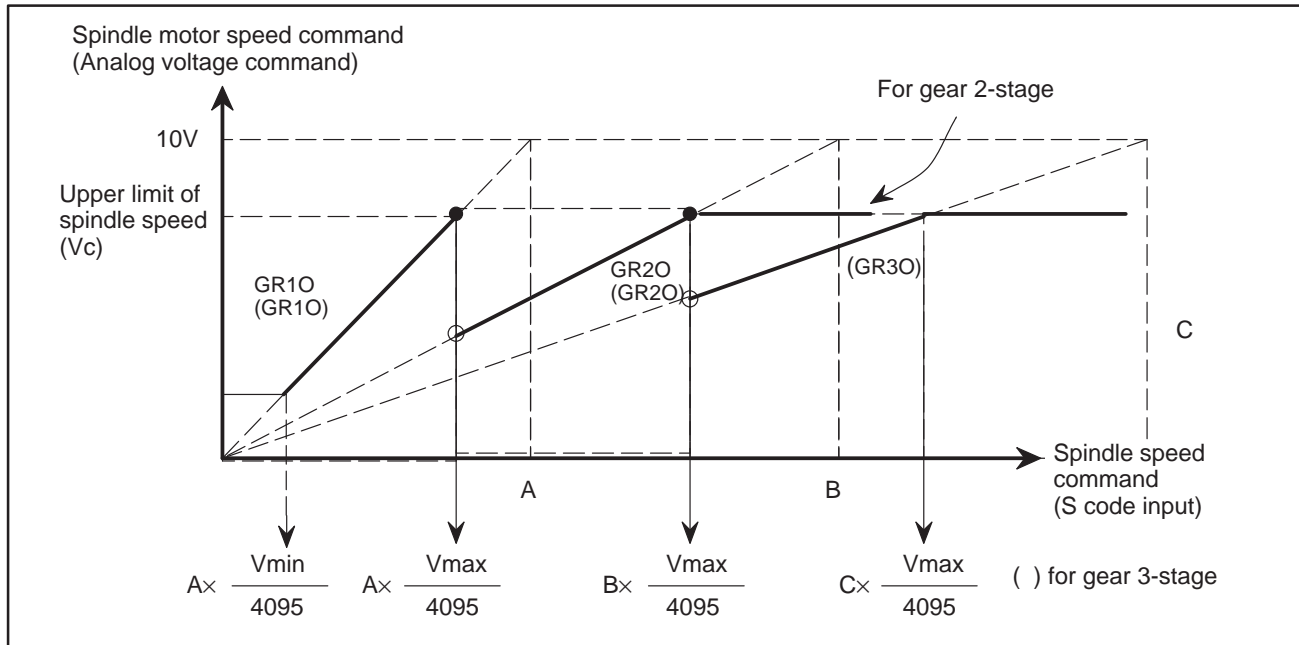

Fig.9.3.1 (a) S code input and output voltage
- M type gear change method A (Fig. 9.3.1 (a))